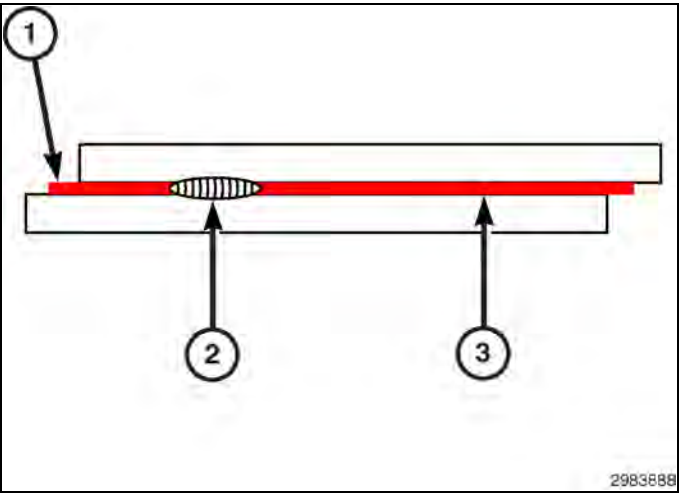

Fig. 11 Current Level Low for Both Welds
9. Destructively test the **second** weld to determine the size of the resistance spot weld produced (see examples in (Fig. 11) If the weld is insufficient, adjust the welder per the welder manufacturer recommendations and repeat steps 7,8 and 9 until the proper weld size is achieved.